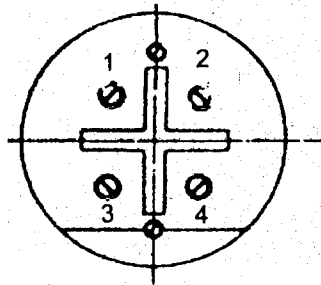

Fig.1
- (b) Connect to terminals 1,2,3 and 4 (in case of Air break type) or to terminals HCL (in case of Microswitch type) with the help of multi-core cable. See Fig. 1 & 2.